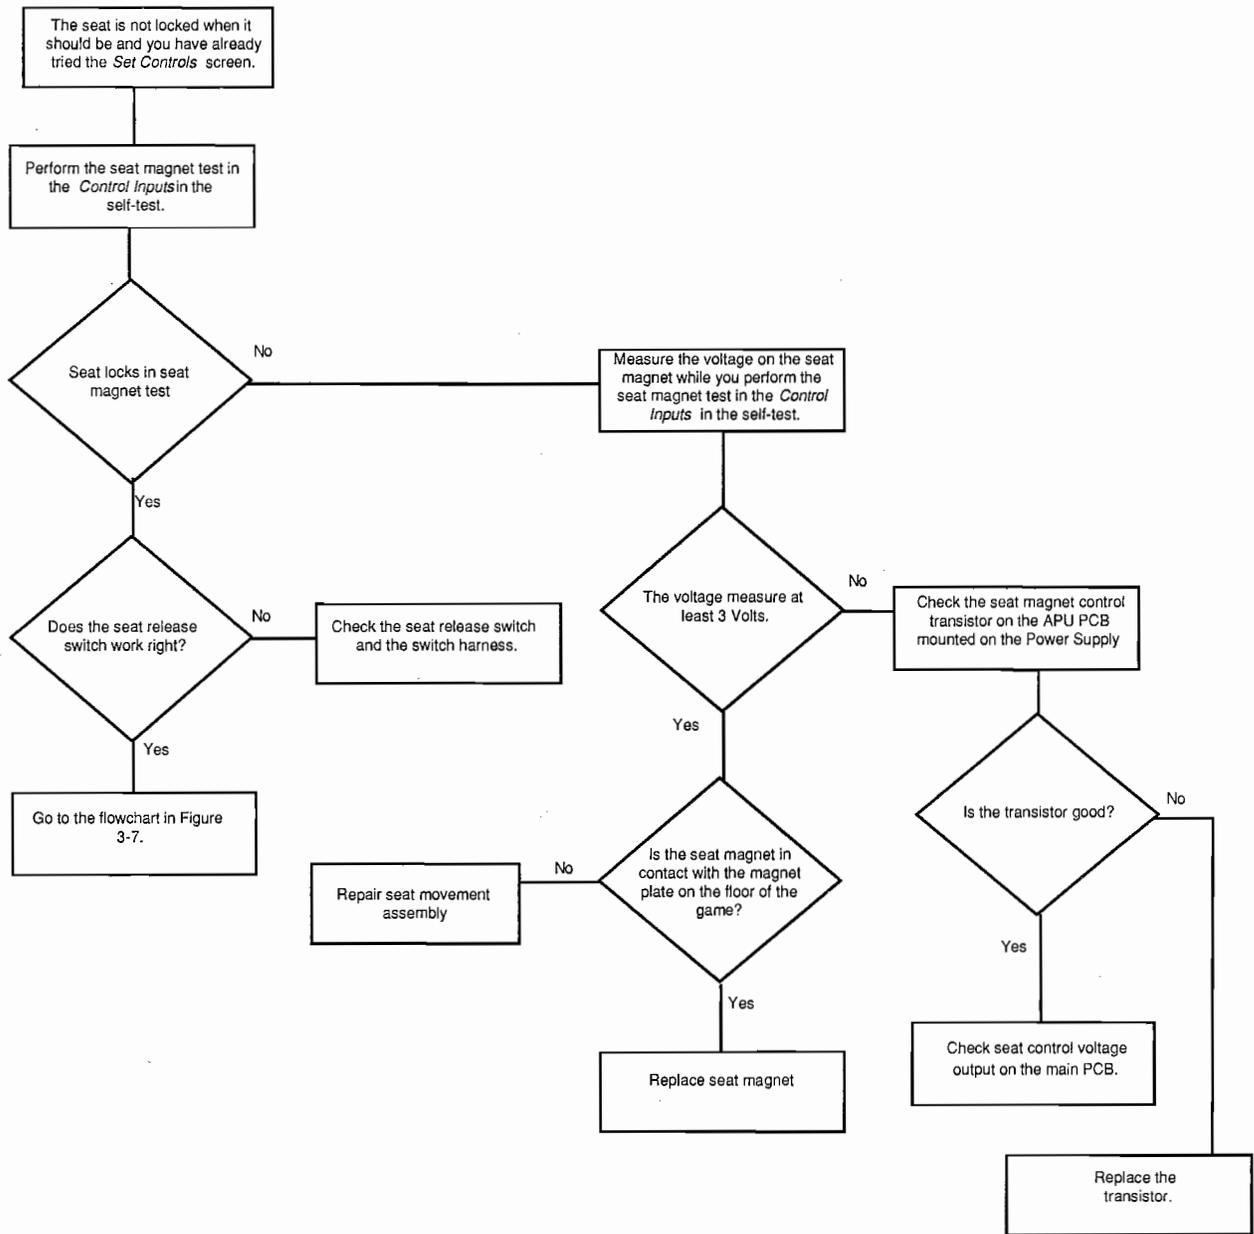

Figure 3-13 Seat is Not Locked When It Should Be And You Have Already Tried the Set Controls Screens
Before you replace the magnet because the seat is not locking, go through the flowchart in Figure 3-13 to determine the source of the problem. If your problem persists, check to see if the magnet has the correct resistance. If the magnet is working, you should measure 2Ω resistance across it.
- If the seat is not locking when it should, follow the flowchart in Figure 3-13.